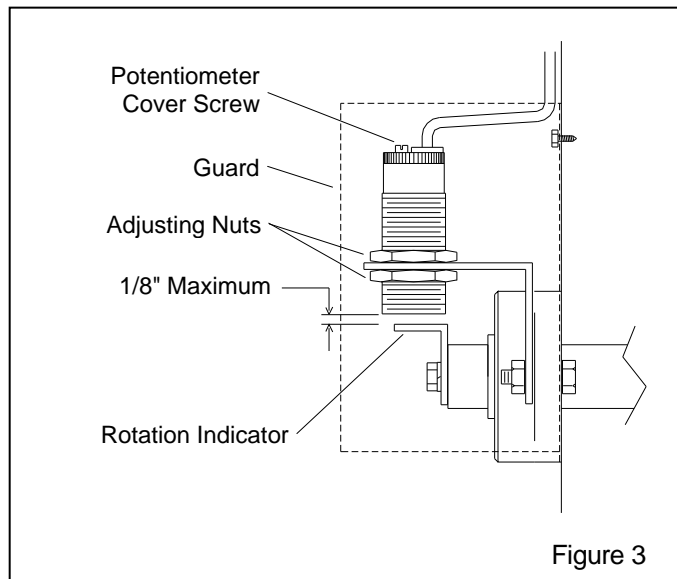

Figure 3
2.8 Rotate the bottom pulley or rotation indicator tab until the tab is facing the monitor as shown in figure 3.
2.9 Adjust the two nuts on the monitor so the distance between the monitor end and indicator tab is approximately 1/16", or as close as possible without touching, and a maximum gap of 1/8", as shown in Figure 3.